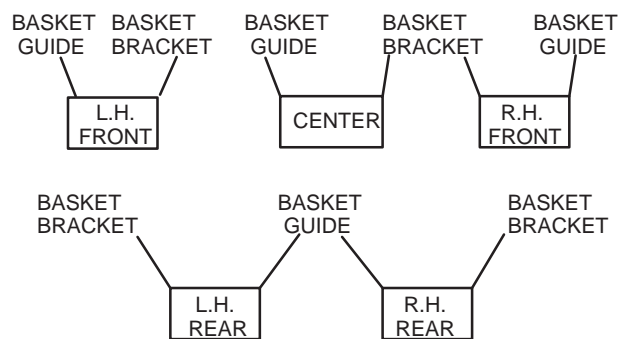
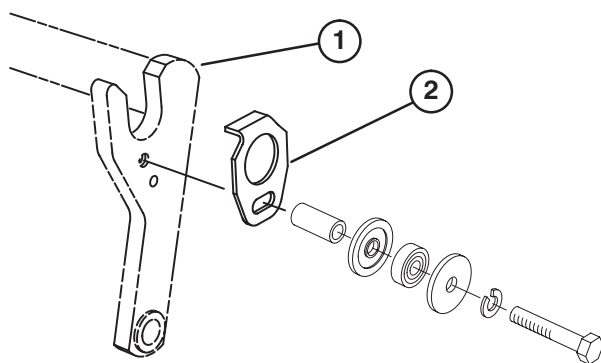
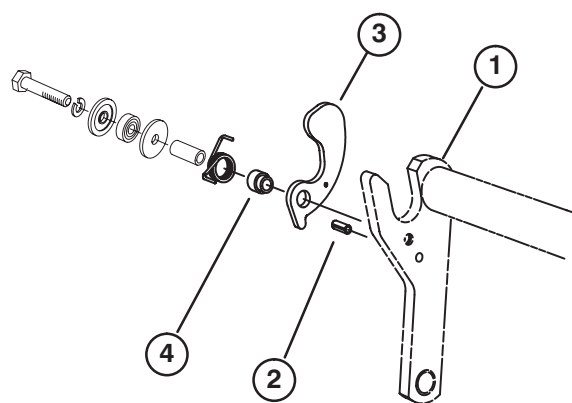
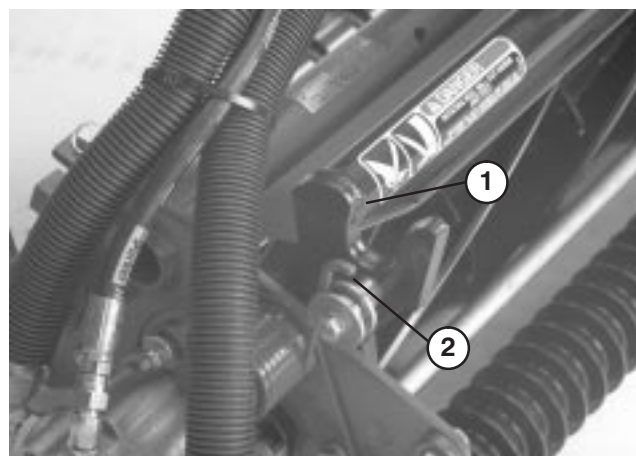

Figure 5
Figure 6
Figure 7
Figure 8
2. If baskets will be installed, use chart below (Fig. 5) to determine locations at which basket guides or basket brackets must be mounted to cutting unit carrier frames. If baskets are not to be installed, proceed to step 7.
3. Remove hardware securing Turf compensation kit to each end of carrier frame (Fig. 6 and 7) and reuse when installing basket guides and basket brackets (Cutting unit models 03506 and 03509 only).
4. Mount a basket guide (Fig. 6) to the appropriate side of each cutting unit carrier frame (see Figure 7) with a capscrew (5/16 x 1-3/4 in.), flat washer, and lock washer or fasteners previously removed, as shown in Figure 6.
5. Install a roll pin (Fig. 7) into hole in appropriate side of each cutting unit carrier frame (Fig. 5).
6. On the same side of carrier frame as roll pin is installed, mount a basket bracket with a capscrew (5/16 x 1-3/4 in.), lock washer, flat washer, torsion spring, basket collar, or fasteners previously removed, as shown in Figure 7. Torsion springs are different for left-hand and right-hand sides of carrier frames. There are 2 left-hand and 3 right-hand springs. Longer leg of spring is to be positioned forward as shown in Figure 8.